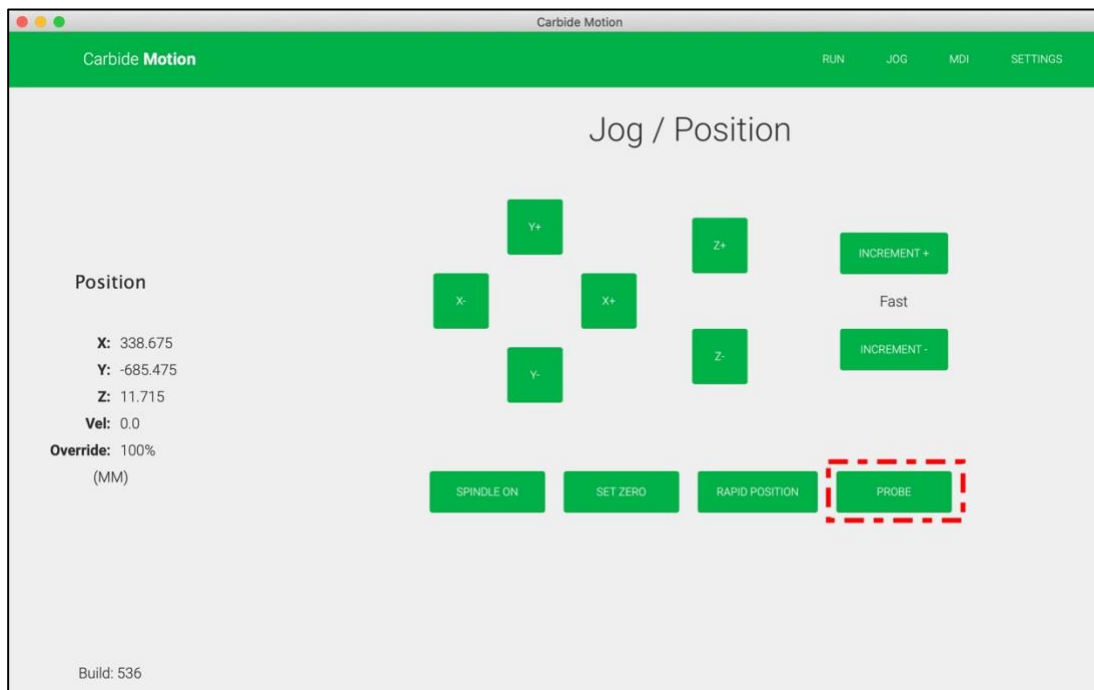

Figure 24
7. Click the **Probe** button to open the *Work Probing* screen. See **Fig. 24**.